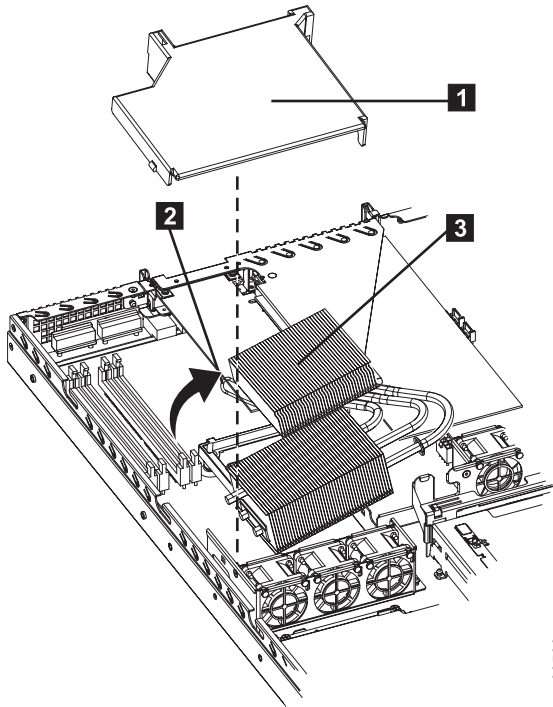

Figure 254. SAN Volume Controller 2145-8A4 air baffle and heat-exchanger assembly
5. Remove the air baffle ( **1** in Figure 254). Grasp the air baffle by the leftmost and rightmost rear corners and lift it up out of the node.
6. Open the heat-exchanger-assembly release latch ( **2** in Figure 254) to the fully open position.
7. Lift the side of the heat-exchanger assembly ( **3** in Figure 254) that is closer to the middle of the node, slide it toward the middle of the node slightly, and lift the entire assembly out of the node.